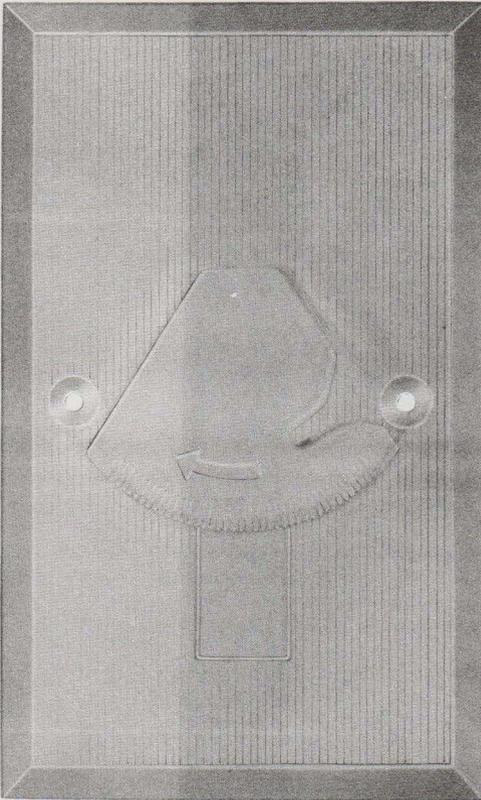

Fig. 4—625FS or 625H Connecting Block
- Block, Connecting, 625FS (Fig. 4)
- Block, Connecting 625H (Fig. 4)
2.06 The **625FS** connecting block (Fig. 4) is similar to the 625F except it has a molded faceplate and a customer-operable spring-loaded cover which protects the interior telephone line contact springs from contamination. It is intended for use in areas subject to high humidity and condensation or locations exposed to spray painting, washing, or foreign matter.
2.07 The **625H** connecting block (Fig. 4) is constructed the same as the 625FS except for the modular jack which shall be a 645H2 jack. The tip and ring is provided on contacts 1 and 6 and will be designated GN and R. The 625H is intended for use in hospital critical care areas to provide connection by specially wired instruments to transmit electrocardiogram (EKG) signals or voice signals (using a TRIMLINE® telephone set with AD3H or AC2PH telephone set base) on the telephone network.
3.06 625FS or 625H Connecting Block: Connect station wire to terminals on rear of connecting block as shown in Table A. Mount the block as shown in Fig. 4.